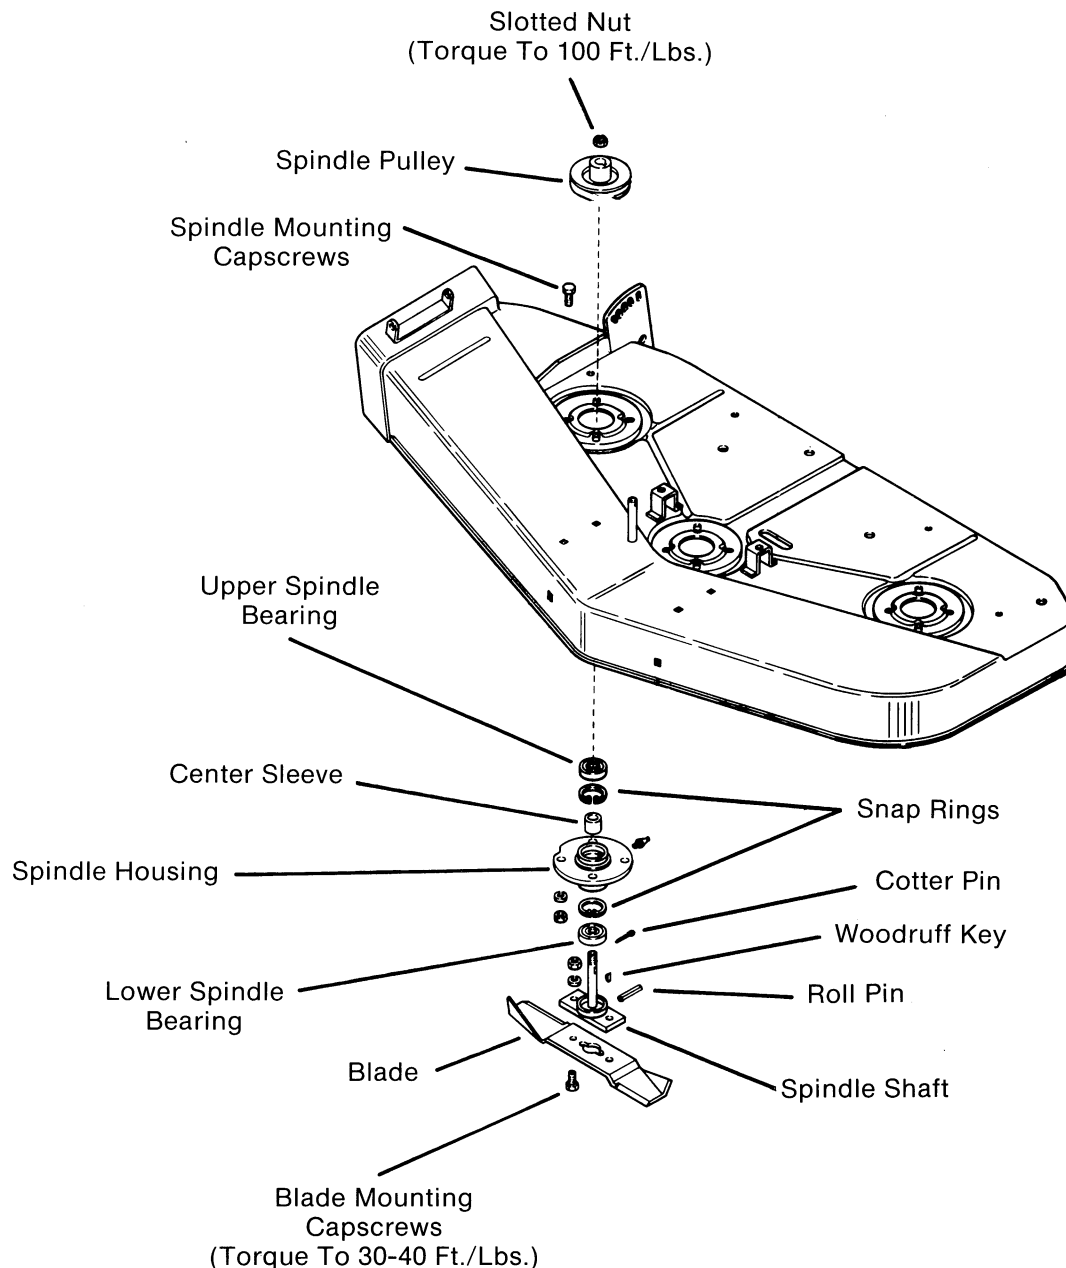

FIG. 20
- a. Remove cotter pin from slotted nut on top of spindle shaft. (Fig. 20)
- b. Block blade with a piece of wood (Fig. 19) and remove slotted nut from spindle shaft. (Fig. 20)
- c. Pull pulley off end of spindle shaft. (Fig. 20)
- d. Remove four capscrews, lockwashers and nuts securing spindle assembly to mower deck. (Fig. 20) Remove spindle assembly out bottom of deck.
NOTE: If spindle is to be replaced, remove blade and roll pin from bottom end of spindle assembly. (Fig. 20)
- a. Slide spindle shaft thru bearings and center sleeve in spindle housing. (Fig. 20)
NOTE: If spindle shaft assembly was replaced, install roll pin thru hole in bottom of spindle shaft. (Fig. 20)
- b. Mount blade flush against bottom of spindle flange. Be certain blade is mounted with cutting edge towards bottom of deck. Replace capscrews, lockwashers and nuts thru blade and spindle flange. (Fig. 20) Tighten capscrews to a torque of 30 - 40 ft./lbs.
- c. Replace woodruff key in key slot. (Fig. 20)
- d. Mount spindle assembly to mower deck from the bottom up and secure with four capscrews, lockwashers and nuts. (Fig. 20)
- e. Install spindle pulley onto top end of spindle shaft. (Fig. 20)